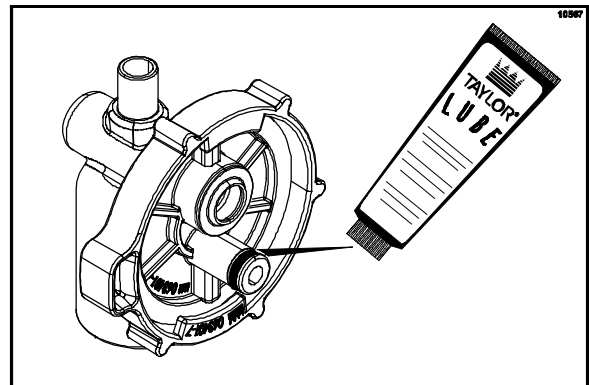

Figure 10
7. Using a small amount of Taylor Lube, lightly lubricate the o-ring on the back of the pump head. (See Figure 10.)